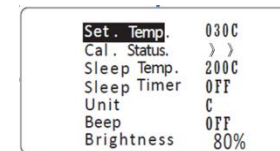

Fig.8
3.4. When Cal. status display "> >" (see Fig 8.) · it means "Real Temp." has calibrated to max. temperature, can not increase anymore, but it can decrease temperature.